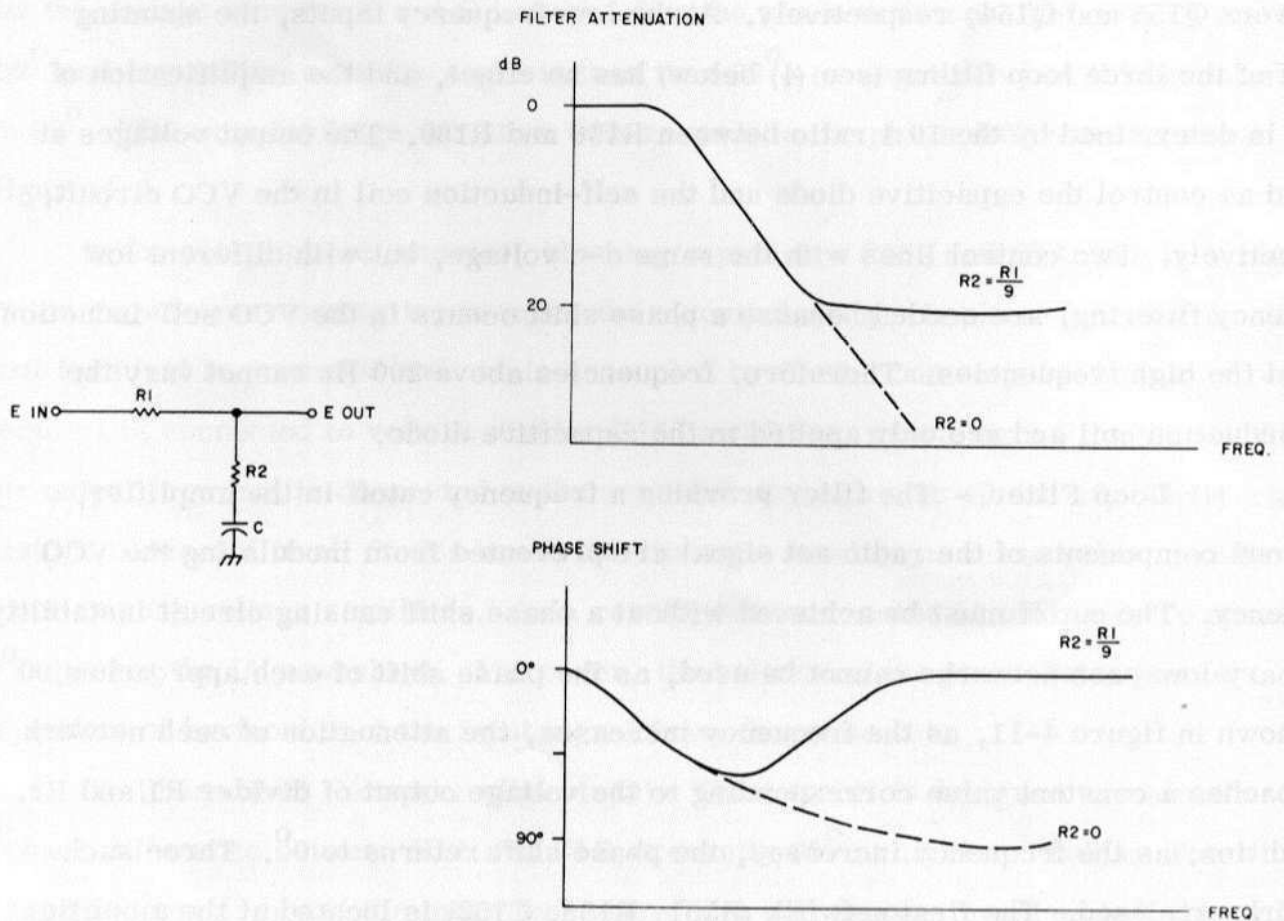

Figure 4-11. Loop Filter, Simplified Schematic Diagram and Curves.
(4) Loop Filter. - The filter provides a frequency cutoff in the amplifier. Spurious components of the radio set signal are prevented from modulating the VCO frequency. The cutoff must be achieved without a phase shift causing circuit instability. Ordinary low-pass networks cannot be used, as the phase shift of each approaches 90° . As shown in figure 4-11, as the frequency increases, the attenuation of each network approaches a constant value corresponding to the voltage output of divider R1 and R2. In addition, as the frequency increases, the phase shift returns to 0° . Three such networks are used. The first network (R151, R158, C152) is located at the amplifier input. While the VCO synchronizes to the radio set frequency, C152 becomes part of the sawtooth generator as described in paragraph (5) below.